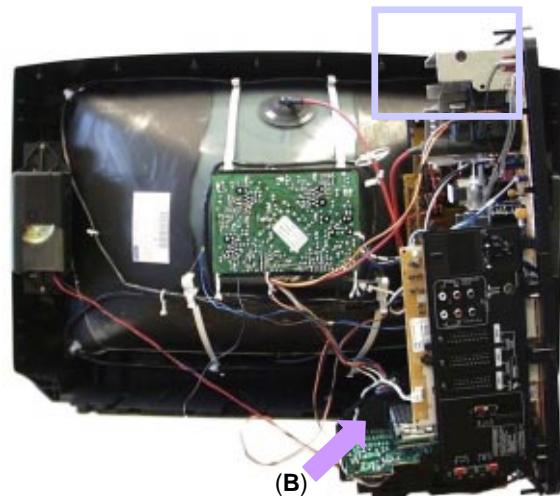

Fig.6.
3. Locate the base of the chassis frame into the hole (**B**), shown in **Fig.6.**